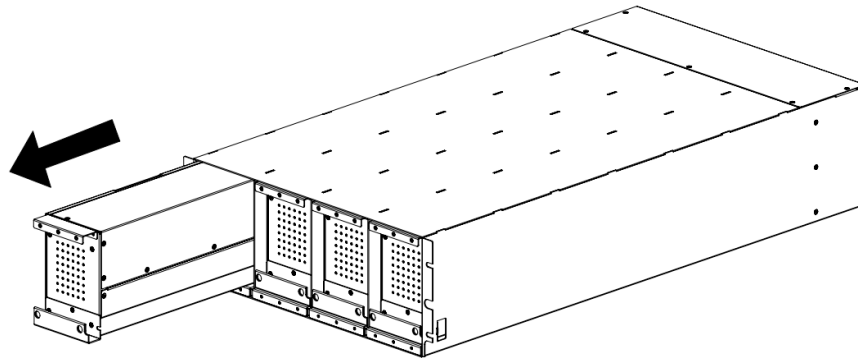

Figure 47: Remove Battery Cartridges from EBP
48. Refer to the handling instruction, remove all battery cartridges (see Figure 47).